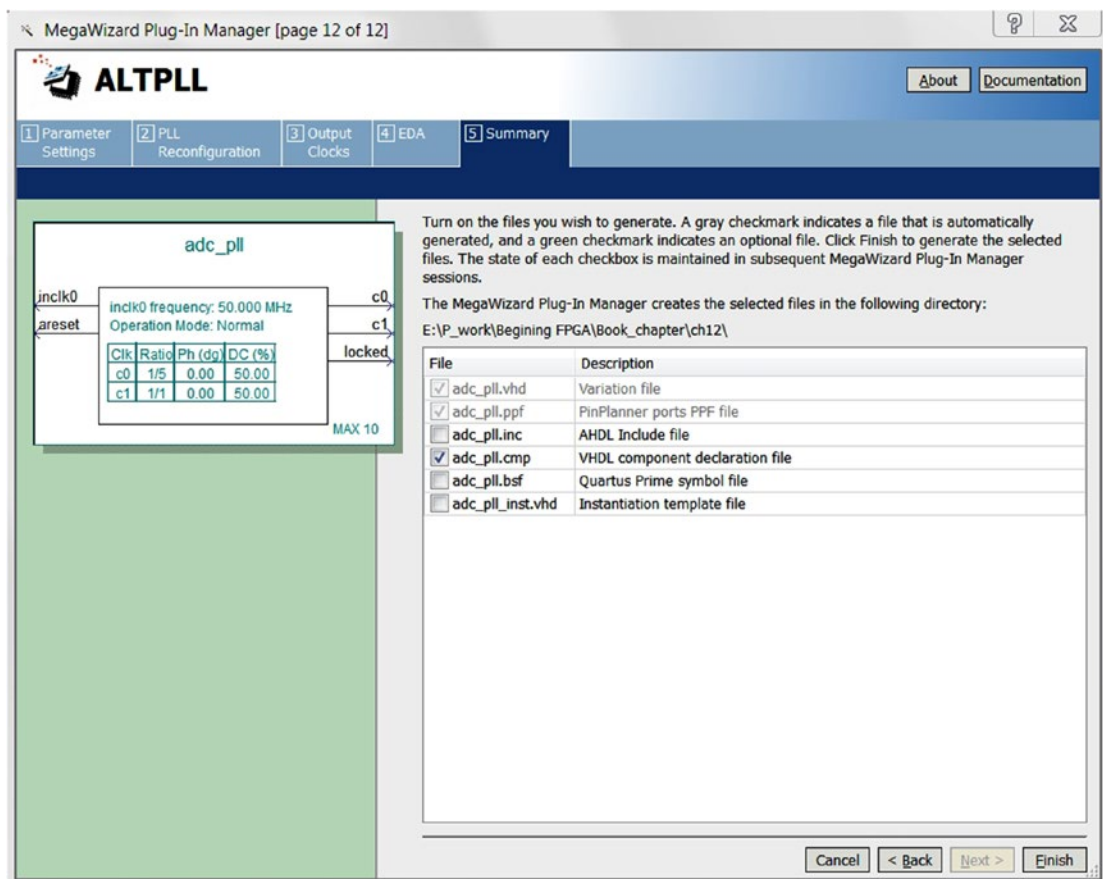

Figure 12-22. MegaWizard Plug-In Manager for ADC IP—5
Step 5: Click the **Finish** button in Figure 12-22, It may pop up another sub-window. Click the **Finish** button on the sub-window and note that the resulting files were added to the Files tab of the Project Navigator.